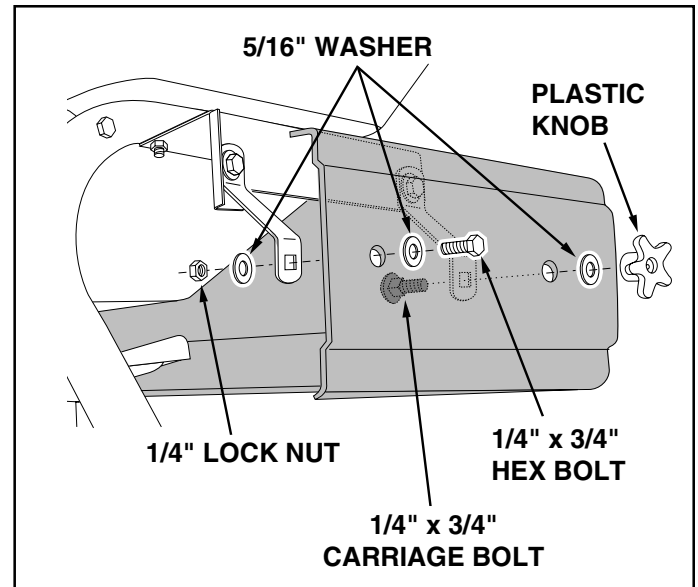

FIGURE 14
26. Assemble the spreader shield to the front swivel brackets using two 1/4" x 3/4" carriage bolts, 5/16" washers and the two 1/4" plastic knobs. See figure 14.
27. Assemble the spreader shield to the rear swivel brackets using two 1/4" x 3/4" hex bolts, four 5/16" washers and two 1/4" hex lock nuts. **Tighten** the locknuts so that the swivel bracket can still pivot freely. See figure 14.